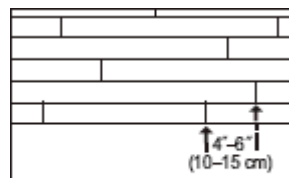

Figure 3
- Be attentive to staggering the ends of boards at least 4" - 6" (10-15 cm), when possible, in adjacent rows (Figure 3). This will help ensure a more favorable overall appearance of the floor.